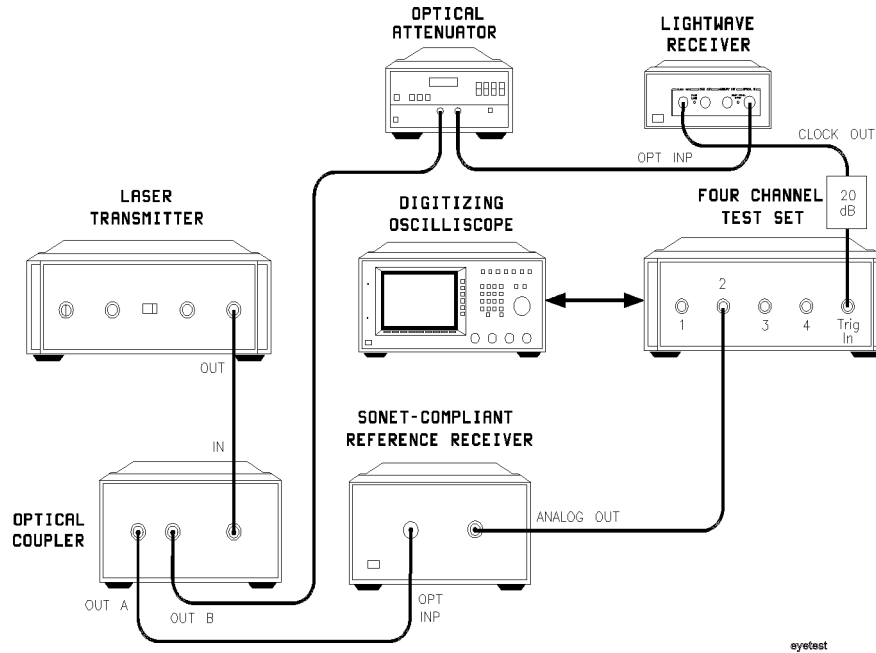

Figure 3-4. Setup for measuring eye diagram by triggering from recovered clock.
1. Connect the equipment as shown in Figure 3-4. The attenuation value for the optical attenuator should be selected so the input optical power to the clock/data receiver is within the range -9 dBm to -27 dBm (-9 dBm to -28 dBm for Agilent 83446B). Note that the optical coupler need not have symmetric outputs on its two ports. To maximize input power into the reference receiver and reduce the effect of oscilloscope noise, it may be advantageous to use a coupler with a coupling factor of approximately 20 dB on output B and very low loss on output A.